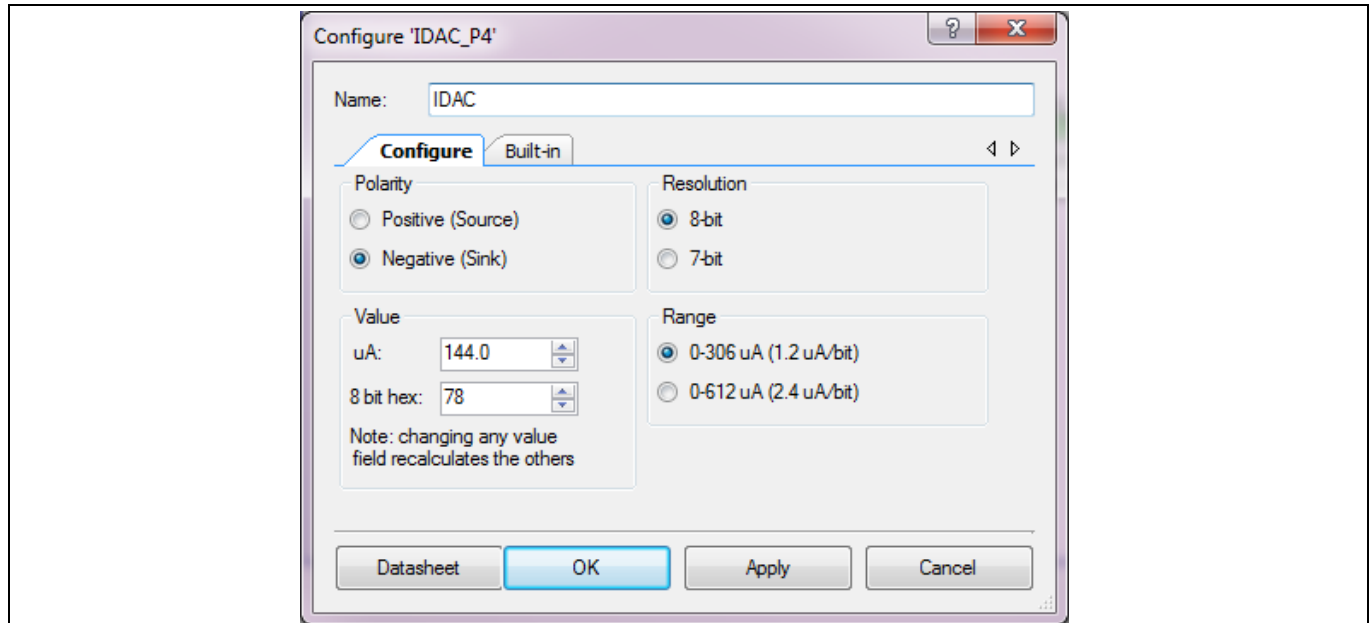
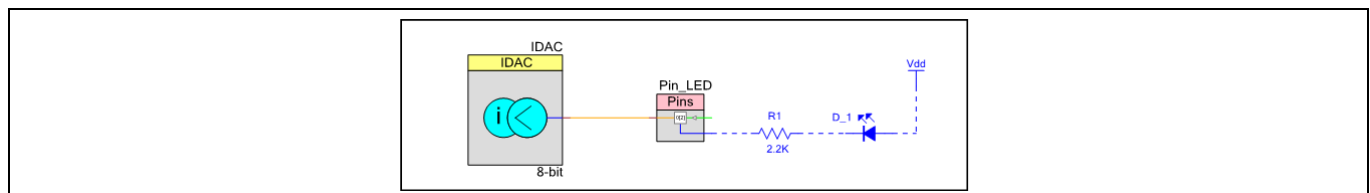

Figure 72 IDAC Setting
Figure 73 PSoC Creator Schematic of Analog and Digital Switching Scheme
4. Set the IDAC's **Polarity** as **Negative (Sink)**, as Figure 72 shows. Connect the IDAC to the analog terminal, as Figure 73 shows.